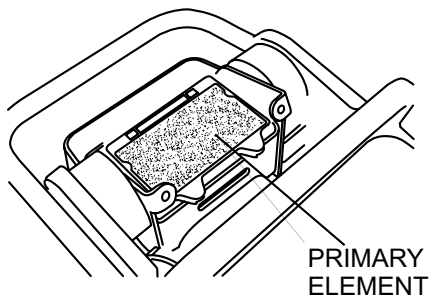

Figure 17. Air Cleaner Primary Element
- Remove the air cleaner cover. Loosen and remove the 2 screws that hold the cover to the air cleaner assembly. If the primary element (Figure 17) is dirty, wash it with gasoline or kerosene. Then dip it in engine oil (SAE 10W-30) and wring the element so that 25 to 30 cc of engine oil remains on the element.